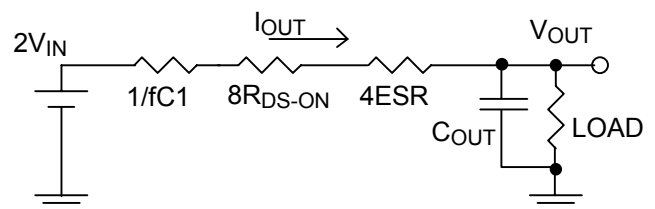

Fig. 22 The equivalent circuit of charge pump
According the equation (16), when the duty cycle is 0.5, the equivalent circuit of charge pump is shown in Fig. 22. The term $8R_{DS-ON}$ is the total effect of switching resistance, $1/fC_1$ is the effect of flying capacitor and $4ESR$ is its equivalent resistance.
From the equivalent circuit shown in Fig. 22, it is seen that the terms $1/fC_1$, $4ESR$ and $8R_{DS-ON}$ should be as small as possible to get large output current. However, for users, since the R_{DS-ON} is fixed and manufactured in IC, what we can do is to lower $1/fC_1$ and ESR . However even the effect of $1/fC_1$ and ESR can be kept as small as possible, the term $8R_{DS-ON}$ still dominates the role that limits the maximum output current.